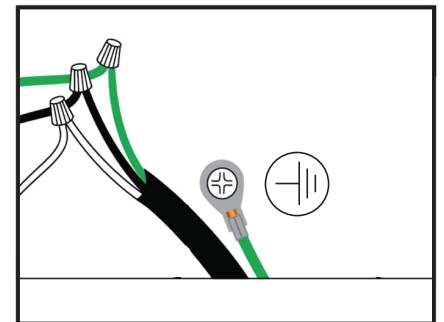

Figure 5
- Connect cable to range hood wiring (see Figure 5).